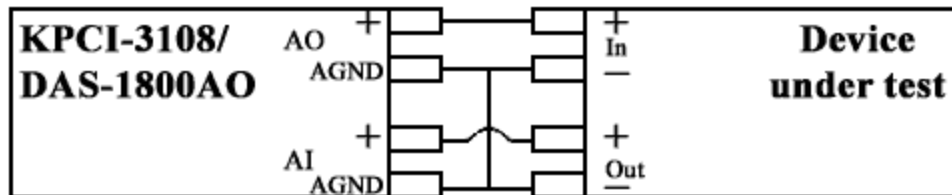

Figure 1. Wiring the Board for this Application
In this application, two channels from the DAQ board are used: an analog output (AO) channel and an analog input (AI) channel. Any channel can be used, as long as the software code controlling the board is modified to use that channel. *Figure 1* illustrates the physical wiring setup.